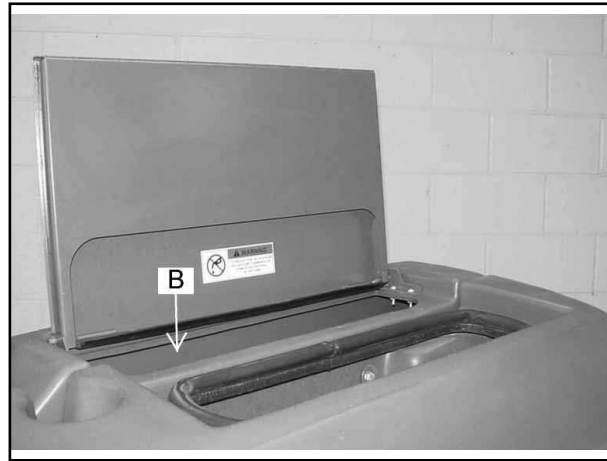

FIGURE 36
Open the solution lid (A) located on the top left side of the machine as shown in figure 36. Fill the solution tank (B) with 55 gallons of water and the correct mixture of American-Lincoln Commercial cleaner for the job on hand. Close the solution tank.